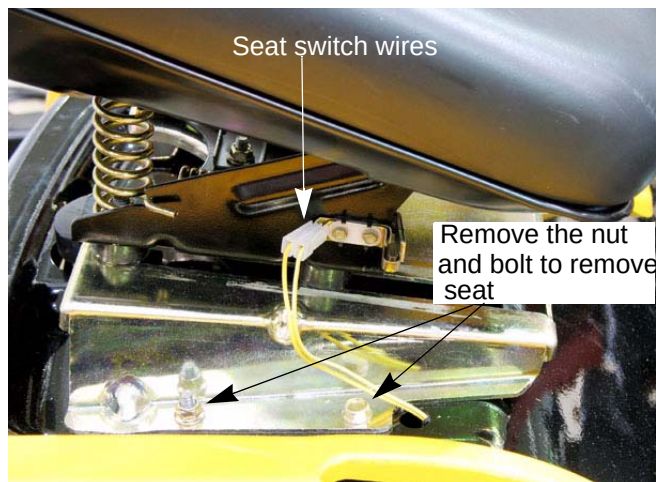

Figure 4.11
2. Disconnect the wires to the seat switch. See Figure 4.11.
3. Remove the seat bracket and seat as one piece. See Figure 4.11.